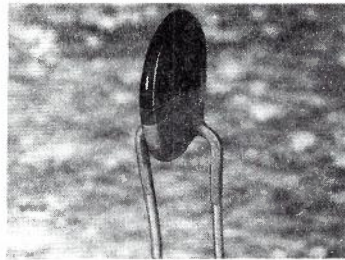

FIG. 15. TYPICAL VARISTOR.
**3.24 VARISTOR SHAPES.** Fig. 15 shows a typical varistor. There are several other types of construction used.